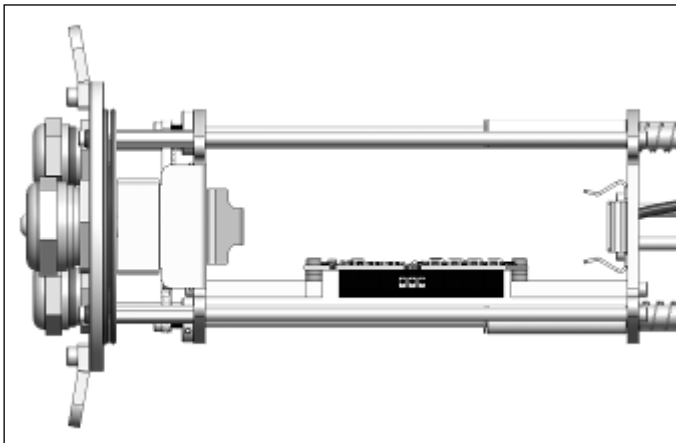

Figure 45: Mounting of the industrial PIF (top view)
5. Fix the Industrial PIF with the screws (M3x5) as shown in **Figure 45**.